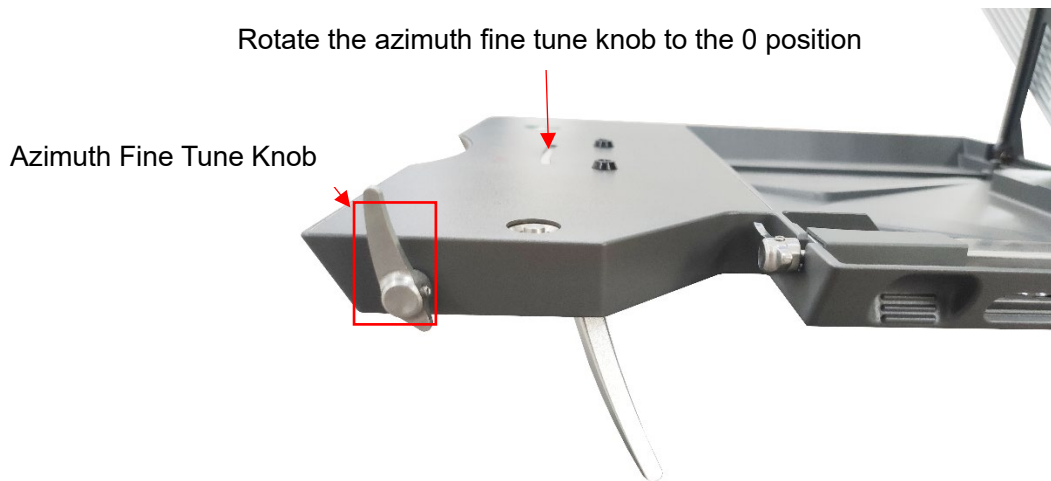

**Figure 8-3 Polarization Adjustment Scale and Indicator**
4. According to the scale on the panel, indicate the Terminal panel to the 0 position, even if it returns to the zero position, the reference azimuth scale is shown in Figure 8-3.